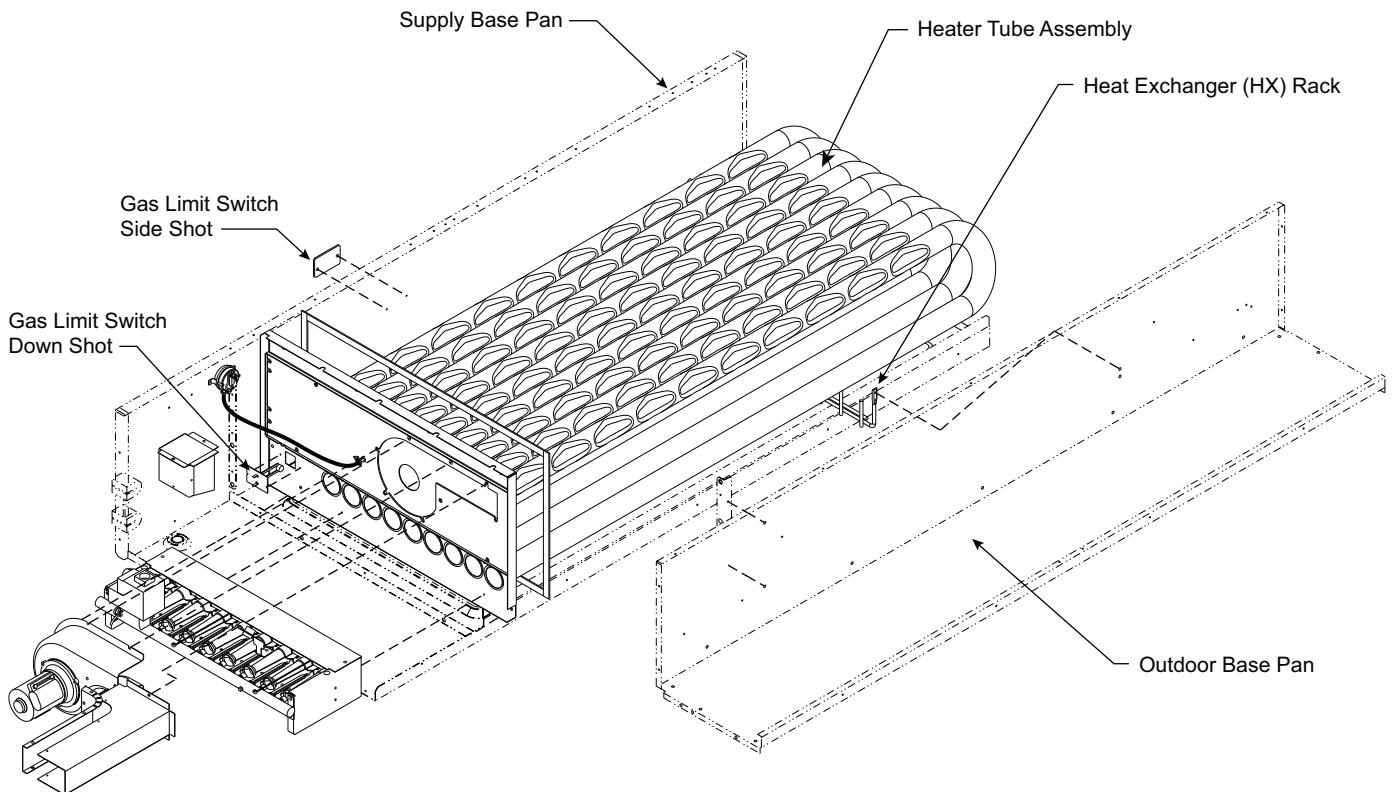

Fig. 51 — Heat Exchanger Access - Gas Limit Switches and HX Rack Locations
1. Remove the screw at the base of the burner partition panel (see Fig. 51) and slide out the panel.
12. Remove the nuts holding the heat exchanger support rack to the fan deck (see Fig. 51).
Remove the indoor blower access panel. Limit switch is located on the heat exchanger cover panel. See Fig. 51.